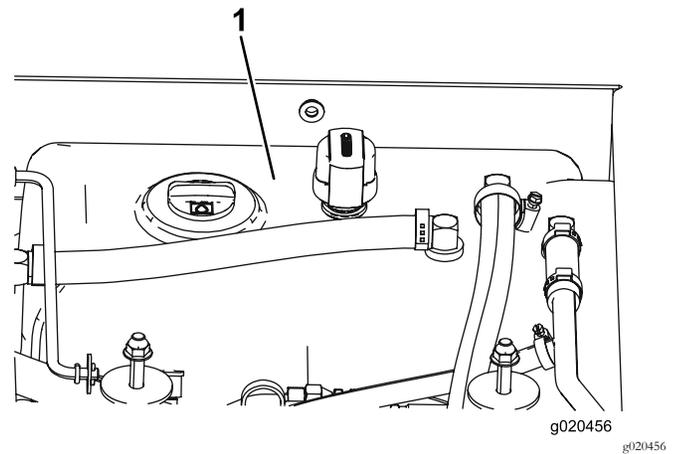

Figure 78
4. Fill the reservoir (Figure 78) with hydraulic fluid; refer to Checking the Hydraulic Fluid (page 59).